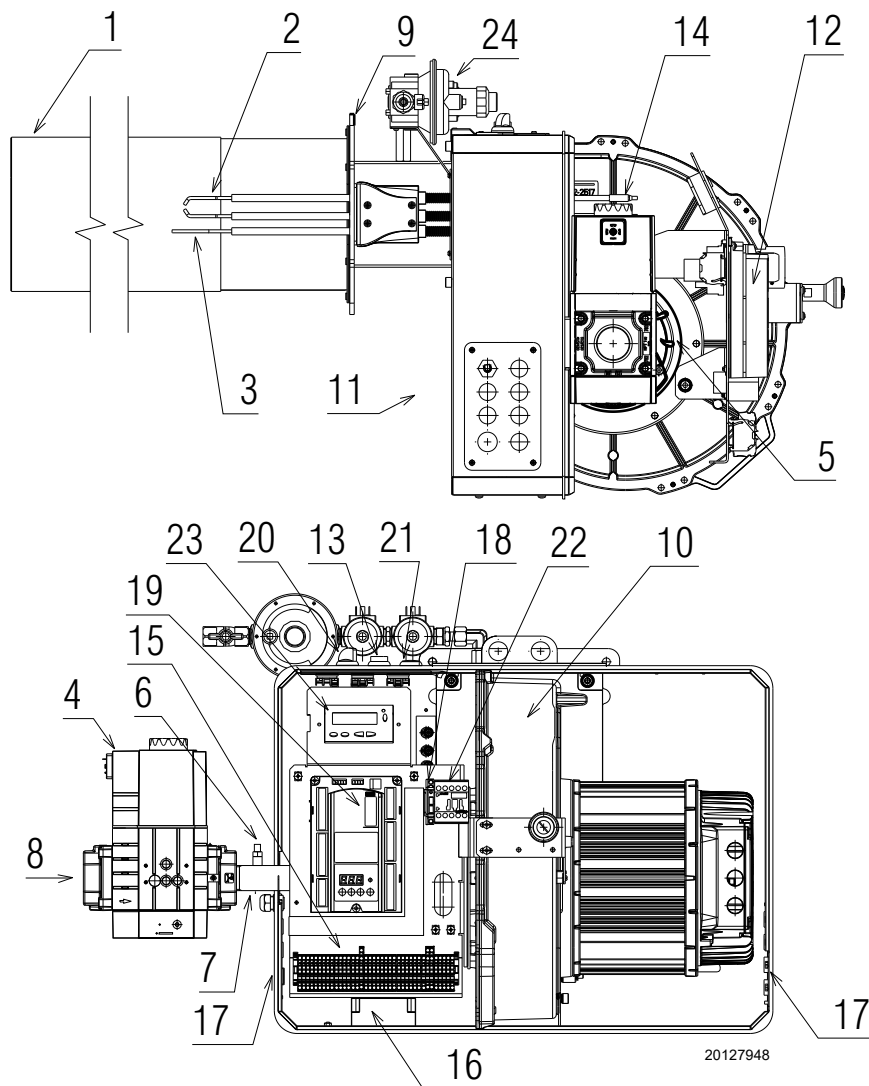

Fig. 2
- (1) Reference conditions: Ambient temperature 20°C - Gas temperature 15°C - Barometric pressure 1013 mbar - Altitude 0 m a.s.l.
(2) Input gas pressure 8)(Fig. 2) with zero pressure in combustion chamber and at maximum burner output.
(3) Sound pressure measured in manufacturer's combustion lab, with burner operating on test boiler, at maximum, average and minimum modulation output. The sound power is measured with the "Free Field" method, as per EN 15036, and according to an accurate "Accuracy: Category 3" measurement, as described in EN ISO 3746.
if the button 13 lights up (Fig. 2) it signals that the burner is in lockout.